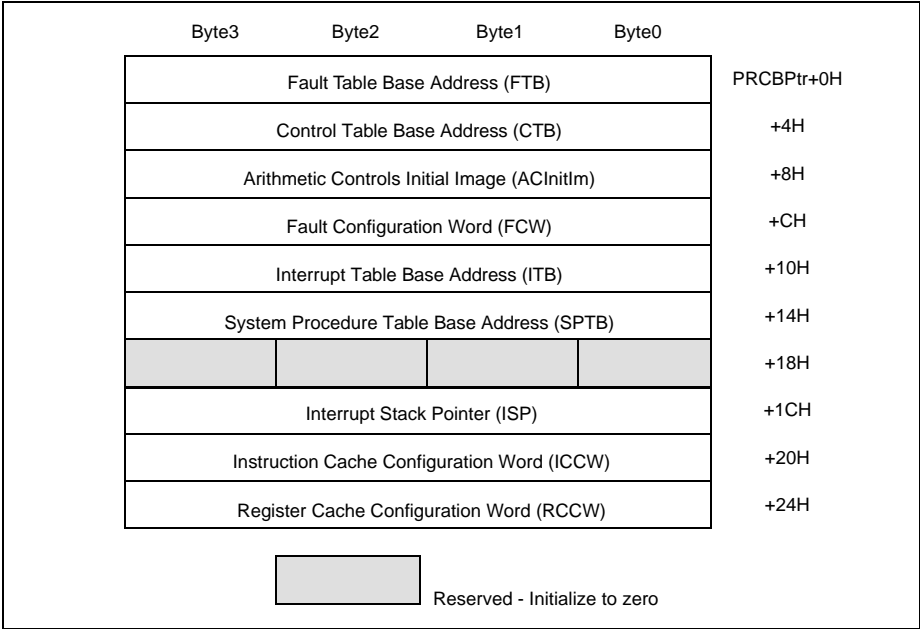

Figure 3. Processor Control Block (PRCB) Structure
PRCB structure, illustrated in Figure 3, is identical for the 80960Cx, 80960Jx, and 80960Hx. Even though the PRCB structures are identical, the application designed to accommodate the 80960Cx and 80960Hx can be designed to provide separate control structures for each. This allows the application to define which control structures are common to the 80960Cx and 80960Hx, and which are unique.
As indicated in Figure 3, the pointer to the fault table is found in the PRCB at offset 0H and is referred to as **FTB** (fault table base address). It may be initialized to any valid, non-reserved location in memory. The **FTB** points to the beginning of the fault table, which contains entries for the beginning address of each fault handler.
As shown in Figure 3, the pointer to the control table is found in the PRCB at offset 4H and is referred to as **CTB** (control table base address). It may be initialized to any valid, non-reserved location in memory. **CTB** points to the beginning of the control table, which contains entries for the initial values of the memory configuration, breakpoint, interrupt control, and additional registers.
The arithmetic control register (AC) is defined identically for the 80960Cx, 80960Jx, and 80960Hx processors. The AC initial image is programmed in the PRCB at offset 8H, and is shown as **ACInitIm** in Figure 3, Processor Control Block (PRCB) Structure (pg. 6).
The fault configuration word is defined identically for the 80960Cx, 80960Jx, and 80960Hx processors. The fault configuration word is programmed in the PRCB at offset CH, and is shown as **FCW** in Figure 3, Processor Control Block (PRCB) Structure (pg. 6).
As shown in Figure 3, Processor Control Block (PRCB) Structure (pg. 6), the pointer to the system procedure table is found in the PRCB at offset 14H. It is identified as **SPTB** (system procedure table base address), and may be initialized to any valid, non-reserved location in memory. **SPTB** points to the beginning of the system procedure table, which contains entries for the starting addresses system procedures. System procedures may be invoked by executing the call system (**calls**) instruction, or by the fault generator.
The interrupt stack pointer is defined identically for all three processors; its initial image is programmed in the PRCB at offset 1CH, and is shown as **ISP** in Figure 3, Processor Control Block (PRCB) Structure (pg. 6).
The instruction cache configuration word (ICCW) is defined identically for all three processors. The ICCW initial image is programmed in the PRCB at offset 20H, and is shown as **ICCW** in Figure 3.
The register cache configuration word (RCCW) initial image is programmed in the PRCB at offset 24H, and is shown as **RCCW** in Figure 3, Processor Control Block (PRCB) Structure (pg. 6). The 80960Jx and 80960Hx processors add additional programmability in addition to